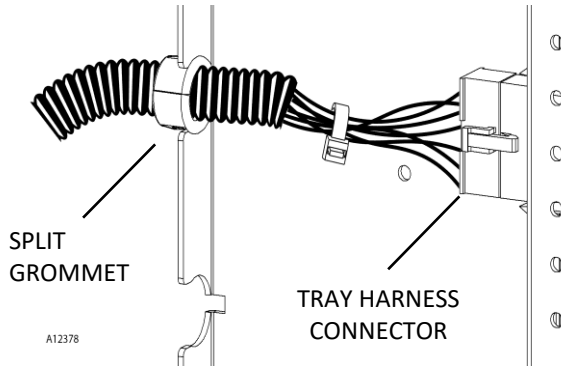

Fig. 12a
1. Disconnect the tray harness on the right-side wall and release the split grommet from the holder plate – Fig. 12a
9. Re-engage the harness split bushing into the harness retainer wall - Fig 12a
1. Disconnect the tray harness from the right-side wall - Fig 12a.
2. Disconnect the tray harness from the right-side wall – Fig. 12a